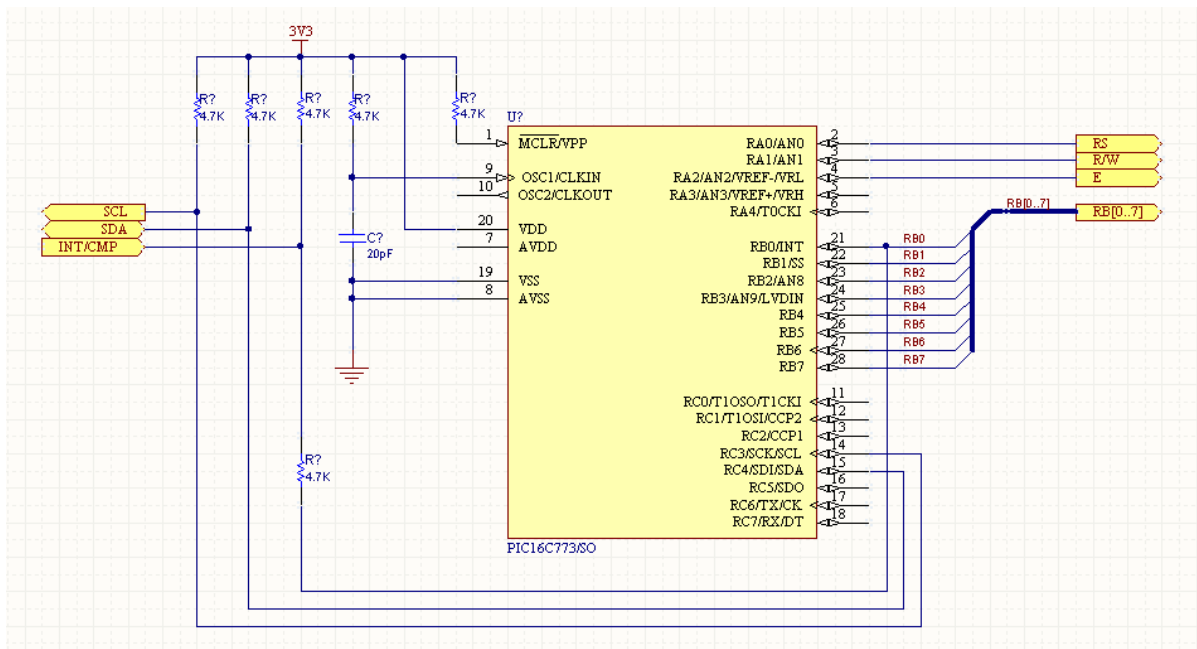

Figure 18. MCU schematic example
6. Draw up the schematic shown in Figure 18 above. When placing the components, press TAB to define the **Designator** and **Comment** (component value) *before* placing the component.